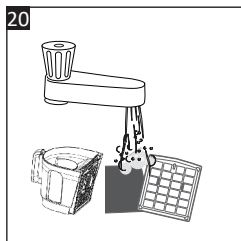

Fig. 20
6. Hold the sponge filter (21) with the dirty side down and rinse it under the tap with lukewarm water until the water runs clear (**Fig. 20**). Rinse the HEPA filter (22) in the same way.
7. Rinse the interior of the dust bin (11) with lukewarm water.